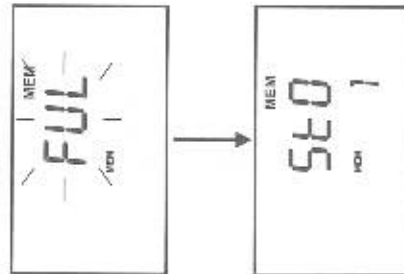

Figure 20: Memory full
3. If the memory is full, the display will flash "MEM - FUL" momentarily (Figure 20). The first value stored will be erased to create space for the new value.